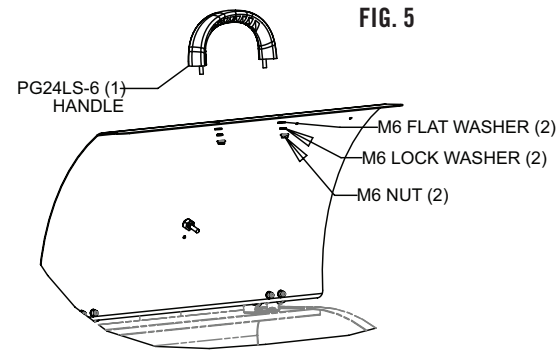

FIG. 5
1. Install the handle as shown in Fig 5.